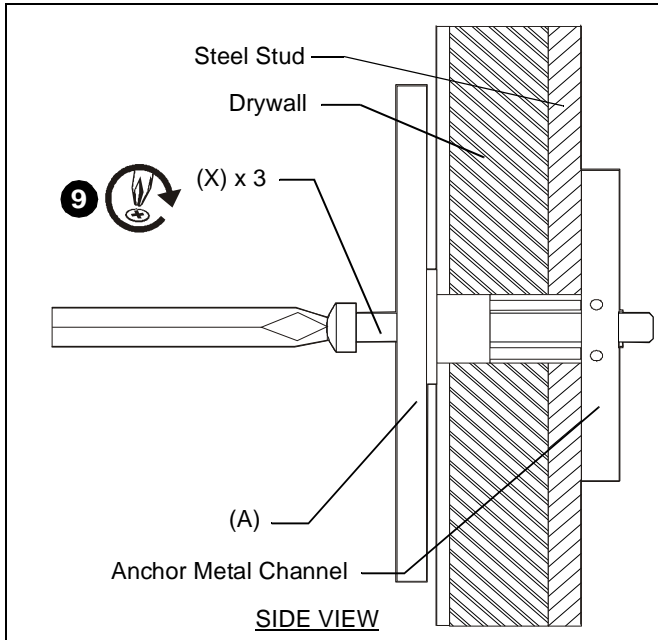

Figure 28
12. Insert 1/4-20 x 1 3/4" Phillips pan head screws (X) through corresponding mounting hole on wall track accessory and into anchor (K) and tighten until flush against mount. DO NOT overtighten! (See Figure 28)